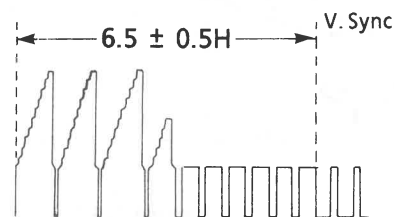

Figure 2-2
(1) Connect a dual trace oscilloscope to test point TP502 located on the Y/C PWB and the VIDEO OUT jack. (Triggered on TP502)
(2) Play the alignment tape.
(3) Press both tracking control buttons at the same time to set the tracking in center.
(4) Adjust R701 so that the edge of the head switching pulse is $6.5H$ (lines) ahead of the vertical sync as shown in Figure 2-2.